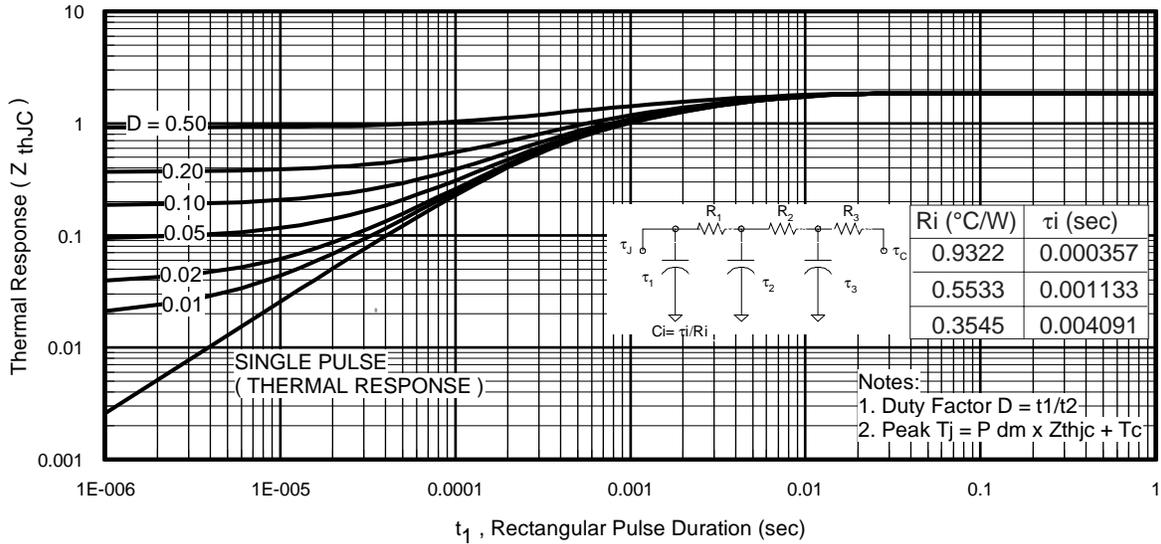
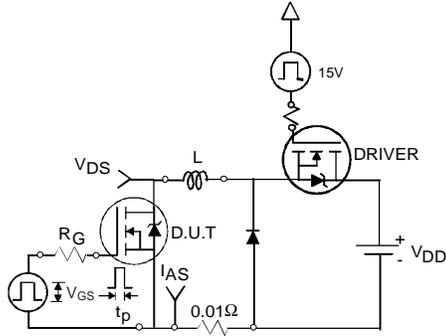

Fig 11. Maximum Effective Transient Thermal Impedance, Junction-to-Case
Fig 12a. Unclamped Inductive Test Circuit
- ① Repetitive rating; pulse width limited by max. junction temperature. (See fig. 11).
- ② Limited by T_{Jmax} , starting $T_J = 25^\circ\text{C}$, $L = 0.13mH$, $R_G = 25\Omega$, $I_{AS} = 31A$, $V_{GS} = 10V$. Part not recommended for use above this value.
- ③ $I_{SD} \leq 31A$, $di/dt \leq 1070A/\mu s$, $V_{DD} \leq V_{(BR)DSS}$, $T_J \leq 175^\circ\text{C}$.
- ④ Pulse width $\leq 1.0ms$; duty cycle $\leq 2\%$.
- ⑤ $C_{oss\ eff.}$ is a fixed capacitance that gives the same charging time as C_{oss} while V_{DS} is rising from 0 to 80% V_{DSS} .
- ⑥ Limited by T_{Jmax} , see Fig.12a, 12b, 15, 16 for typical repetitive avalanche performance.
- ⑦ This value determined from sample failure population. 100% tested to this value in production.
- ⑧ This is applied to D²Pak, when mounted on 1" square PCB (FR-4 or G-10 Material). For recommended footprint and soldering techniques refer to application note #AN-994.
3. Equation below based on circuit and waveforms shown in Figures 12a, 12b.
$Z_{thJC}(D, t_{av})$ = Transient thermal resistance, see figure 11)